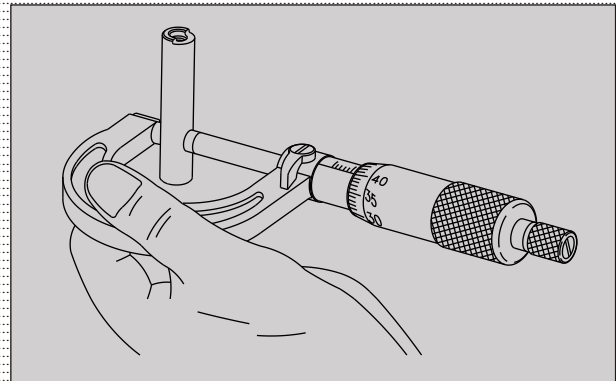

Fig. 3.123
- Measure outer diameter (OD) of shaft valve rocker arm. If OD is less than service limit, replace the shaft. (Fig. 3.123)